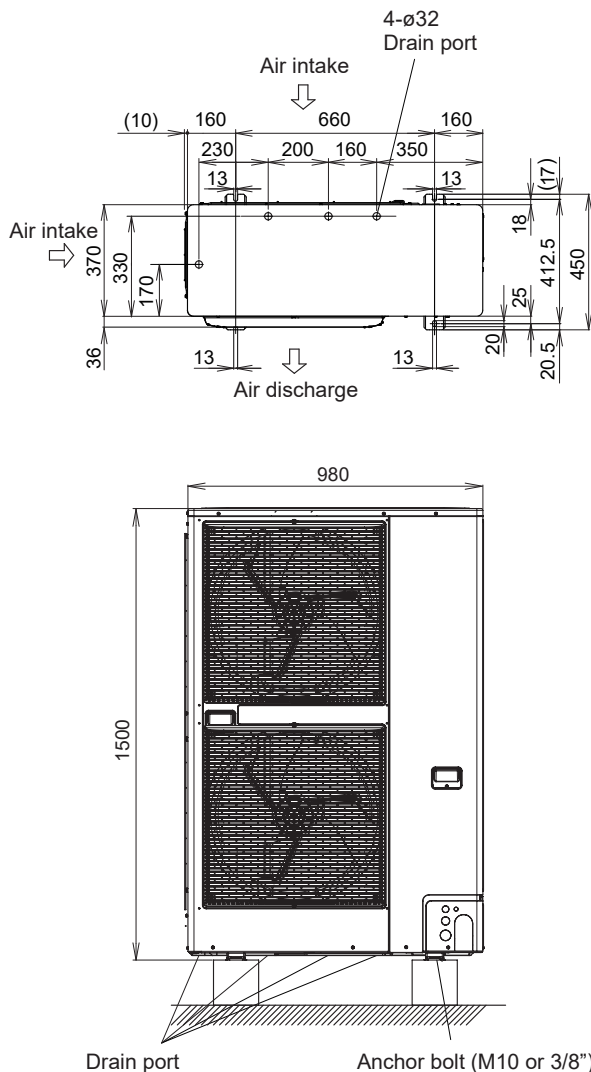

Fig. 2-4-1
- See Fig. 2-4-1 for the anchor bolt dimensions.
- For the drain port dimensions, see Fig. 2-4-1.